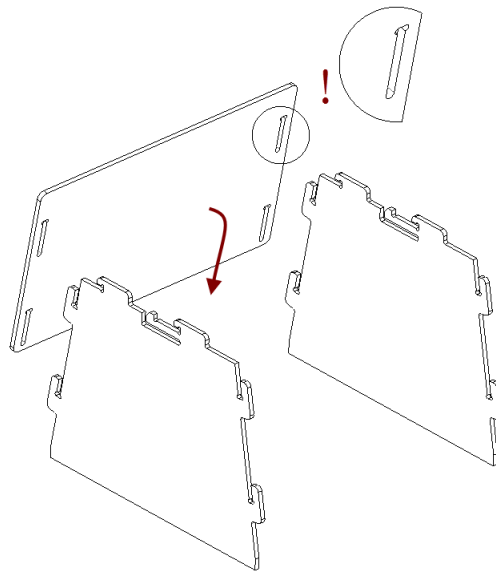
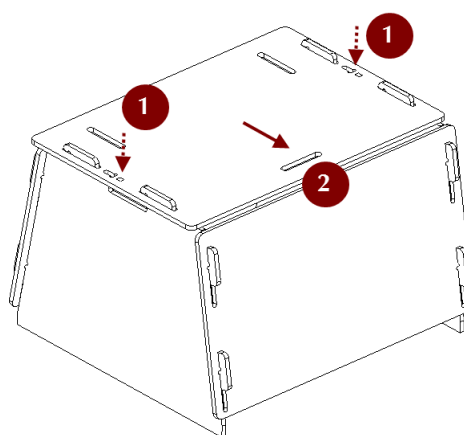

Figure 241: Assembling the front wall.
Figure 244: Latching the cover.
1. Raise the two side walls to the upright position, as Figure 241 shows. Noting carefully the orientation of the T-shaped slot, install the front wall to the side walls
4. Press your thumbs against the T-shaped holes on the cover and shift it toward the back wall until you hear a click (see Figure 244).
order (from Figure 244 to Figure 241), moving the parts in the opposite directions.